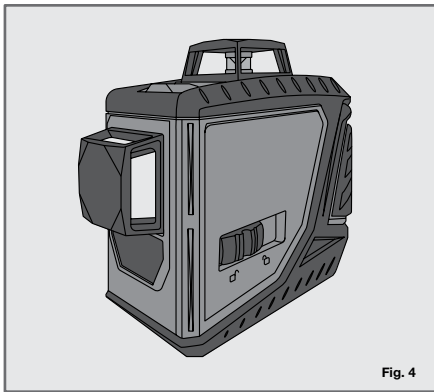

Fig. 4
- To turn the laser level on, slide the **power / locking switch** to the **“unlocked”** position. Self levelling will commence and the horizontal beam will activate (Fig. 4).